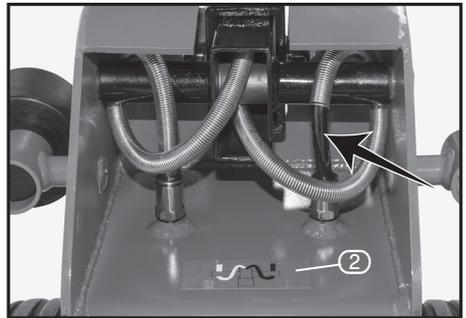

FIG.2
1. Remove the circlip ① from the handle securing pin and slide the pin out.
4. Loop the black air hose around the handle securing pin then fully push the hose into the connector (fig.2).
5. Follow above procedure for transparent hose (as label diagram ②).